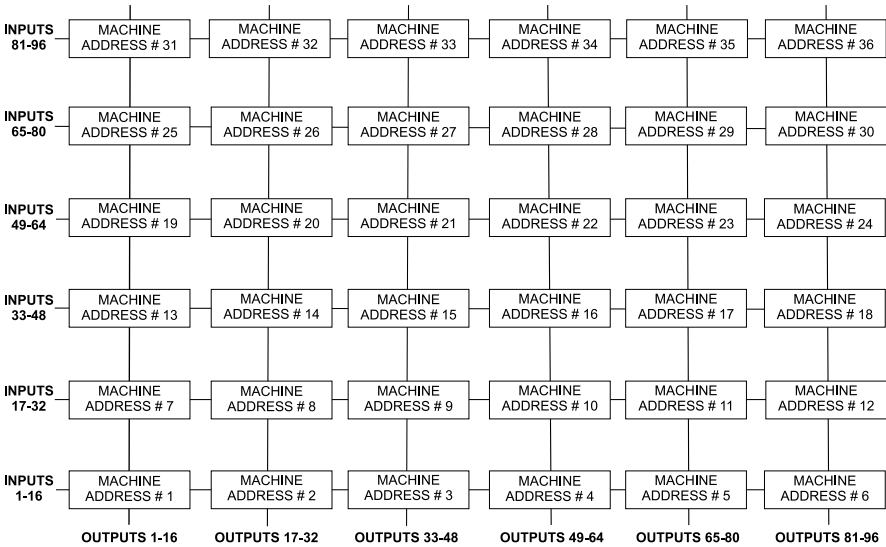
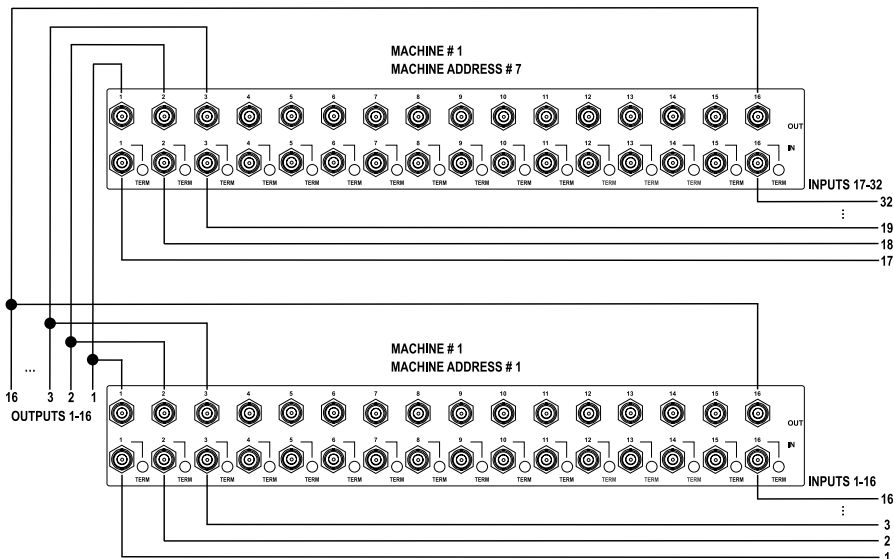
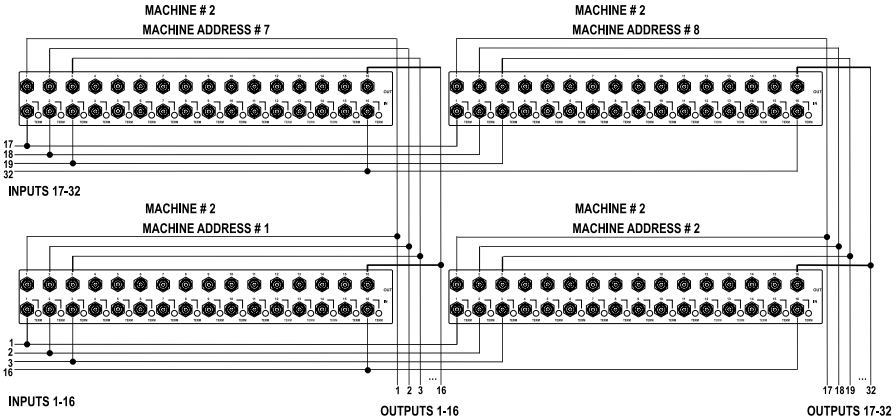

Figure 8: MACHINE ADDRESS # Designation
Figure 9: Connecting the 32x16 Switcher
Figure 10: Connecting the 32x32 Switcher
You can expand the number of inputs and outputs using several **VS-1616V** units1. Set the **MACHINE ADDRESS #** (see section 6.5.2) on each **VS-1616V** unit to define which inputs and outputs are configured to that particular unit when expanding, as the chart in Figure 8 illustrates.
For example, to connect a 48x64 switcher (48 inputs and 64 outputs), you would configure using **MACHINE ADDRESS #** 1, 2, 3, 4; 7, 8, 9, 10; 13, 14, 15 and 16. You can only choose a rectangular2 configuration from the chart in Figure 8.
As can be seen in Figure 8, a 32x16 switcher consists of 2 **VS-1616V** units (**MACHINE ADDRESS #** 1 and **MACHINE ADDRESS #** 7). To assemble, as Figure 9 illustrates:
3 For a single group, this is usually set to # 1, as in the example in Figure 9
2. Set the MACHINE ADDRESS # on one **VS-1616V** unit to 1 and on the other **VS-1616V** unit to 7 (refer to Figure 8).
As can be seen in Figure 8, a 32x32 switcher consists of 4 **VS-1616V** units (MACHINE ADDRESS # 1, MACHINE ADDRESS # 2, MACHINE ADDRESS # 7 and MACHINE ADDRESS # 8). To assemble, as Figure 10 illustrates:
2. Set the MACHINE ADDRESS # to 1, 2, 7 and 8 on each of the 4 units, respectively (refer to Figure 8).
1 Set to # 1 in most cases. In the example in Figure 10, the MACHINE # is set to # 2
The MACHINE ADDRESS # is determined via the MACHINE ADDRESS Menu command, as section 8.4 describes. The MACHINE ADDRESS # defines which inputs and outputs are configured to that particular unit when expanding, as the chart in Figure 8 illustrates.